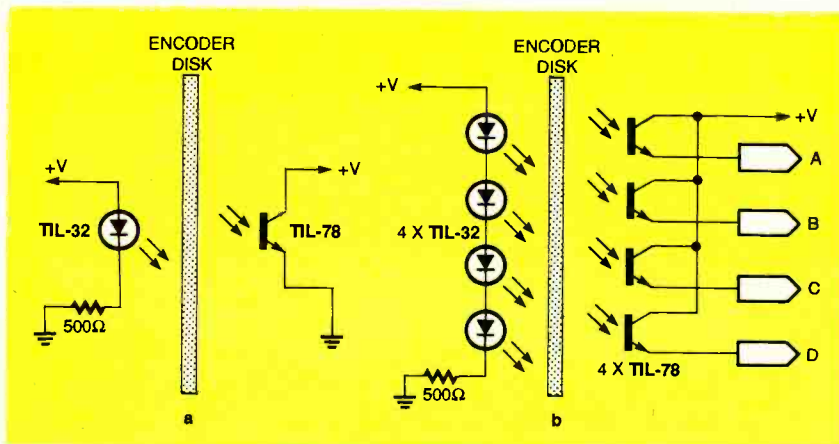

FIG. 2—HEATH'S BASIC SENSOR CIRCUIT works, but leaves something to be desired.
Figure 2 shows the Heath circuits for the wind-speed (a) and wind-direction (b) sensors. Typically, the forward drop across an infrared (IR) LED is 1.6 volts, and the maximum continuous forward current is 50 milliamperes. The circuit biases the IR emitters to provide a continuous current of 20 milliamperes. The IR detectors operate in an open-emitter configuration, in which the detector conducts current provided that the light path from the emitter has not been obstructed by a dark section on the optical disk.
FIG. 2—FLOWCHART OF THE BASIC SOFTWARE. Loop 1 waits for a card to be inserted. Loops 2 and 3 measure a hole, and Loop 4 ensures that all 16 holes are measured. Following loop 4, the software converts the decoded values into a binary number.
To understand how the software senses information, refer to the flow chart, Fig. 2. At the beginning of the program (START), three assumptions are made: 1) The circuit is